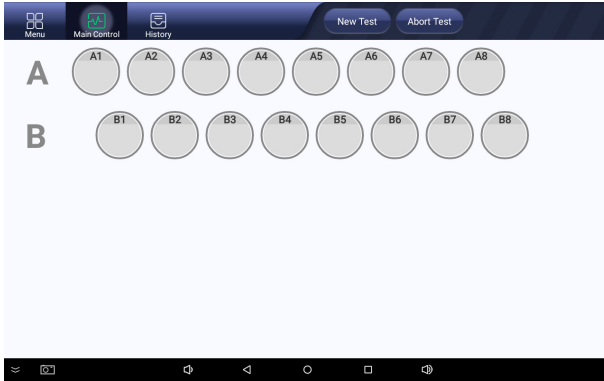

Figure 6.1.1
① Press "New Test" on main control, as shown in Figure 6.1.1: